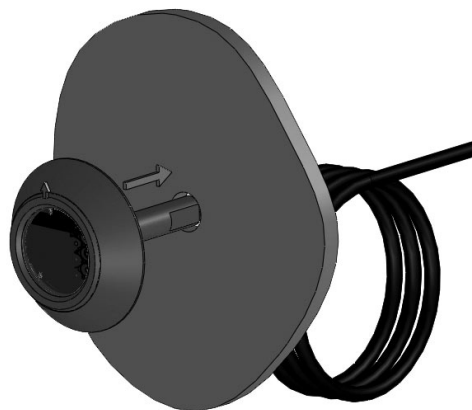

Fig.3.2
2. Insert the light body into the hull, feeding the stem through first and seat into place. Press the light hard into the hull and twist slightly to spread the sealant around behind the light to ensure good adhesion. (See Fig.3.2).